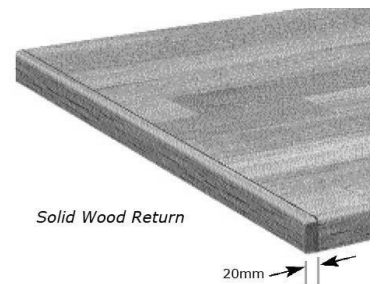

Fig. 7 Fitting end cap
**Important:** The stave direction of the end cap should run at 90 degrees to those in the worktop edge (Fig. 7).